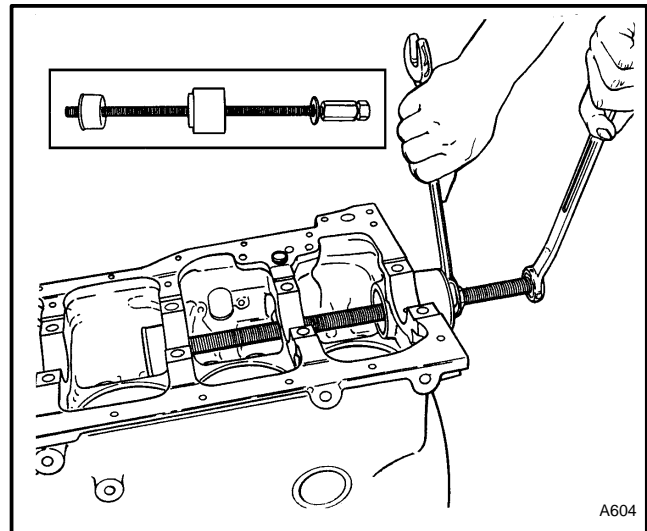

FIGURE 18. CAMSHAFT BEARINGS, REMOVAL AND INSTALLATION
Special tools are required to remove and install the camshaft bearings. See FIGURE 18. Remove the front and rear bearings last.
2. Install the removal and installation tool as shown in FIGURE 18. Remove the intermediate bearings.
2. Install the intermediate camshaft bearings. Use the special tool as shown in FIGURE 18.